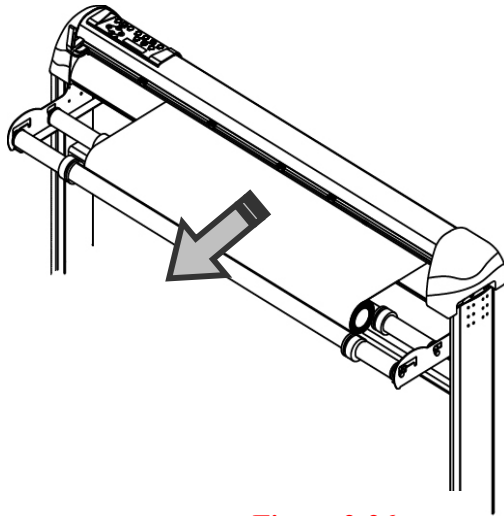

Figure 2-26
4. Then turn the roll downward to make an equal tension across the media (**Figure 2-26**)